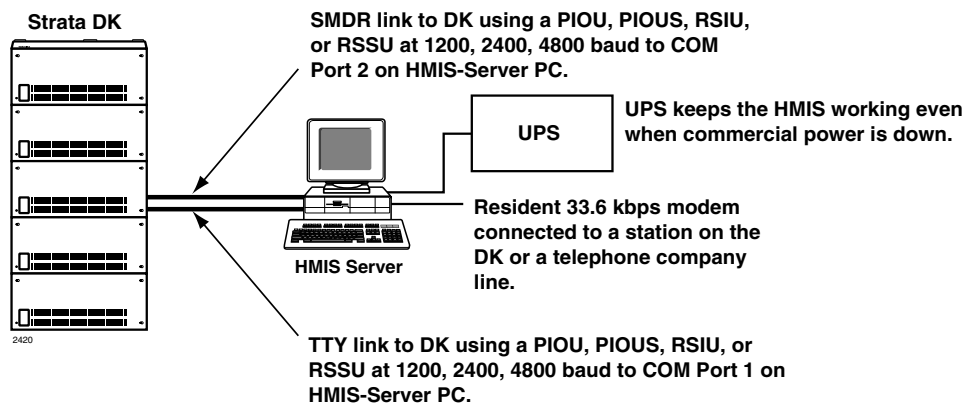

Figure 54 HMIS Server PC
- ♦ An HMIS server acting as a single front desk terminal (see Figure 54 below).